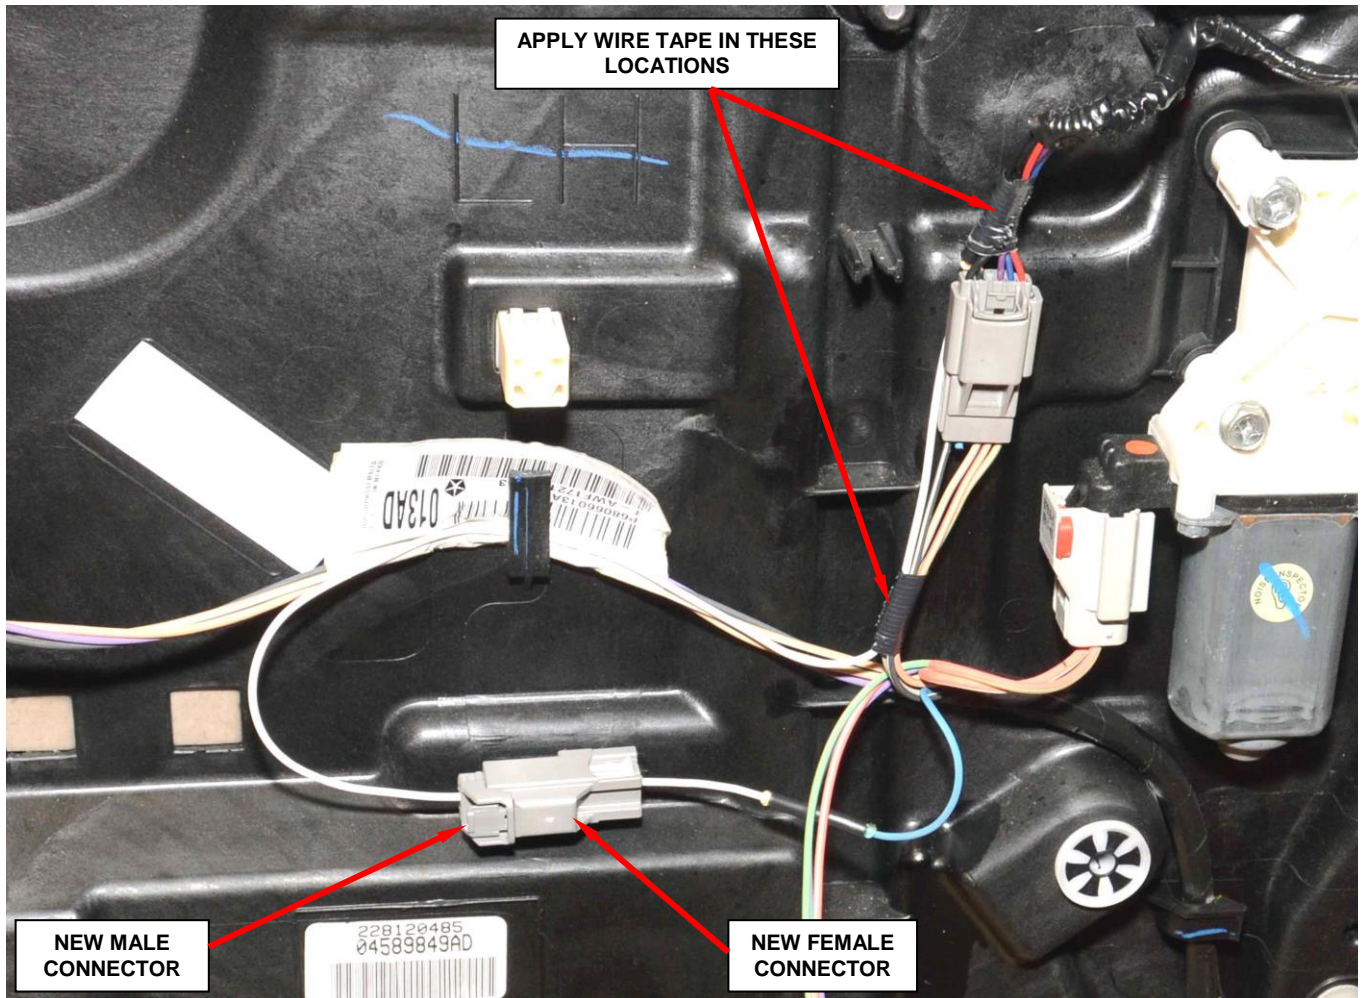

Figure 13 – Correct Wire Routing
23. Connect the female connector to the male connector (Figure 13).
24. Route and tape the wires as shown in Figure 13.